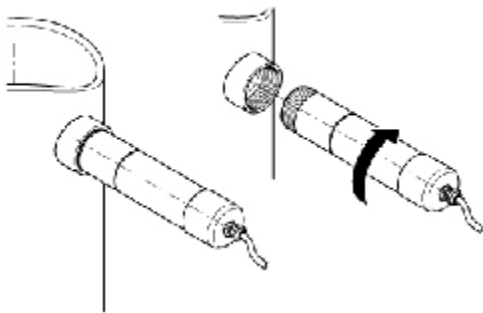

Fig. 3: Thread mounting
- screwed directly into an existing thread type R1 1/2" (fig. 3)